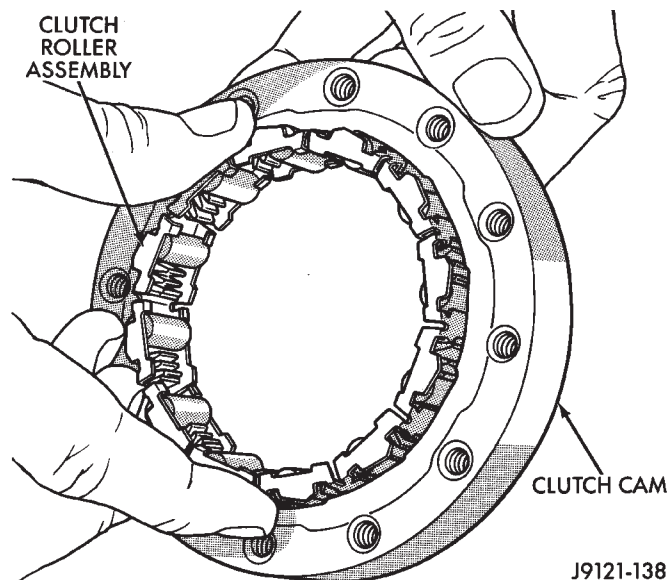

Fig. 113 Assembling Overrunning Clutch And Cam
(2) Install overrunning clutch roller, spring and retainer assembly in clutch cam (Fig. 113).
(3) Temporarily assemble and check overrunning clutch operation as follows: